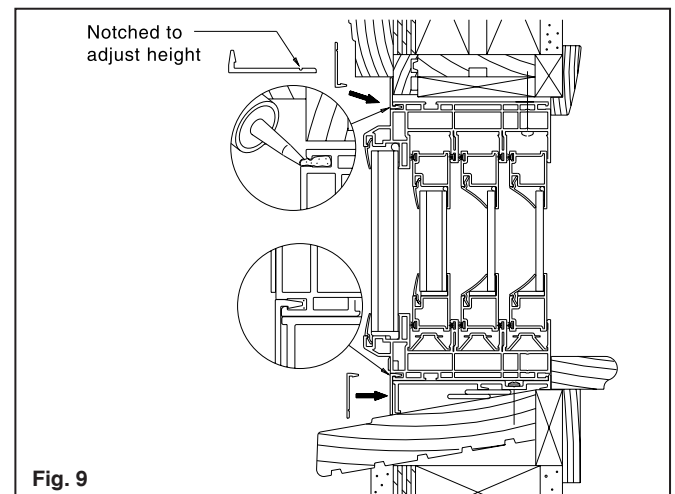
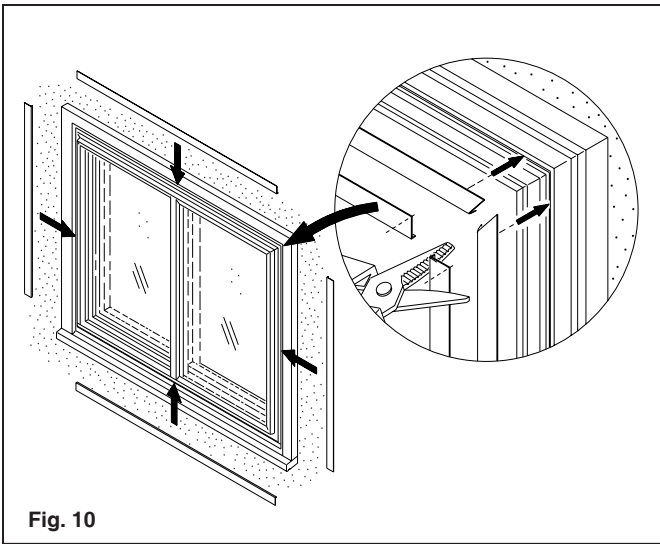

Fig. 9
Fig. 10
A. Flat exterior trim material is available to finish off the exterior look. The trim material will be sealed with an appropriate sealant and snapped into the gap that follows the perimeter of the frame. See **Fig. 9**. Measure the pieces to the frame and with a sharp knife or a heavy scissor, make a 45° cut for a miter fit. Care should be taken not to over cut trim. See **Fig. 10**.